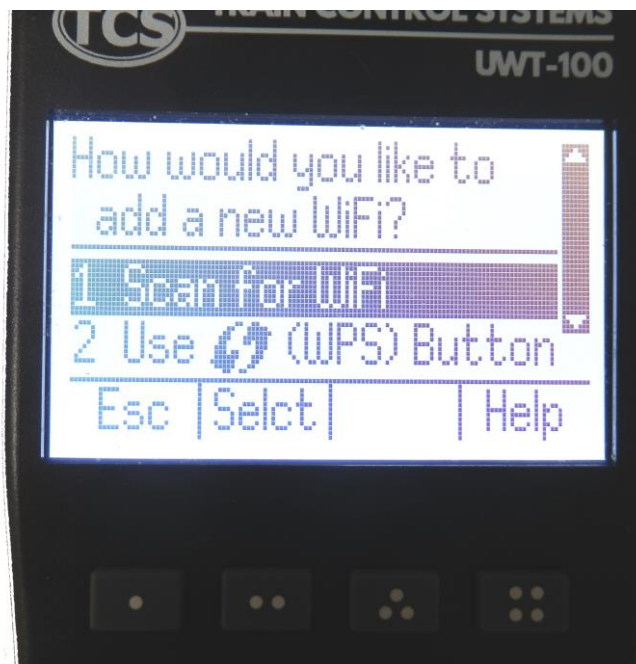

Figure 22 Select Scan for Wi-Fi
(4) Select option 1, Scan for Wi-Fi as Figure 22.